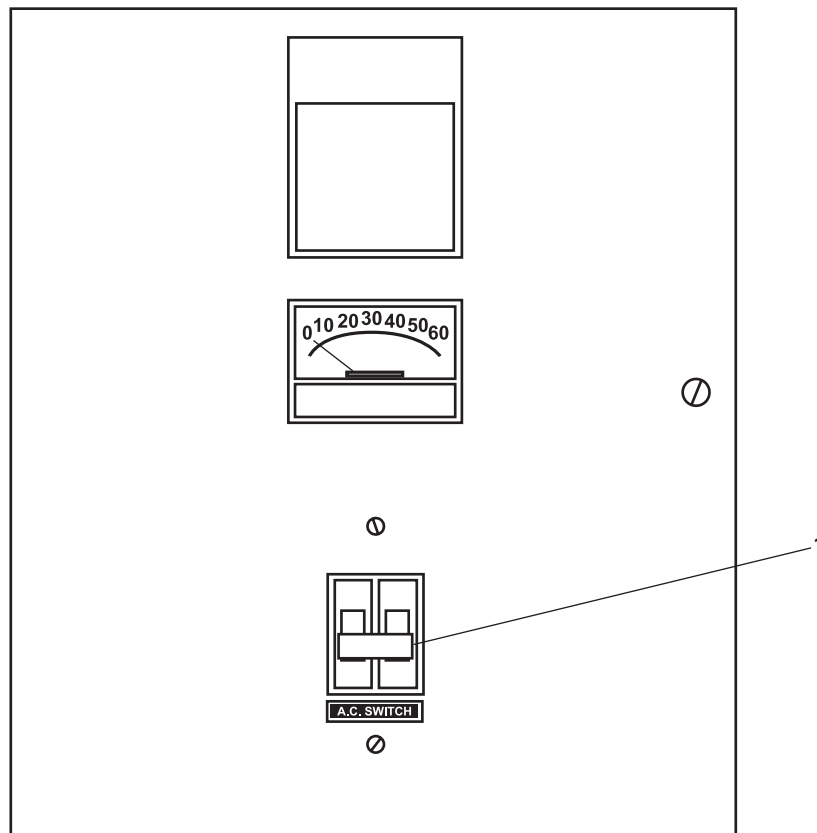

Figure 5. ROWPU Battery Charger
4. At the ROWPU battery charger, turn ON the A.C. SWITCH (figure 5, item 1).